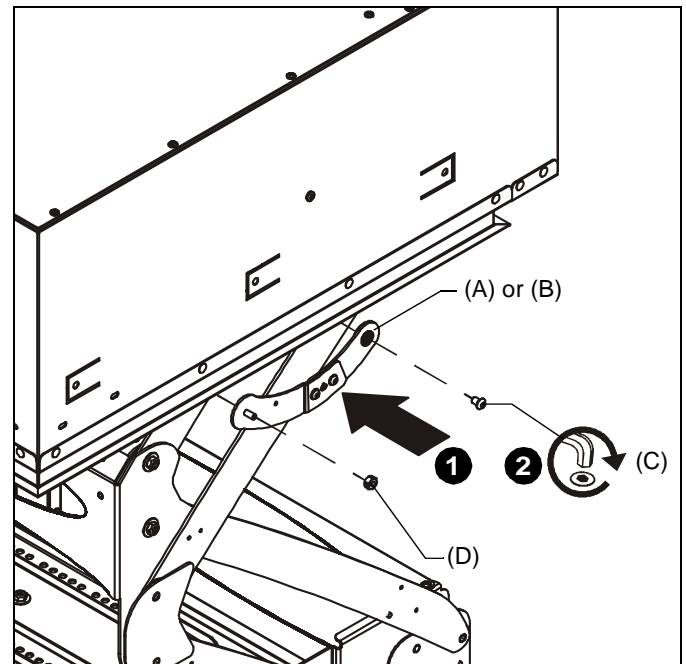

Figure 3
1. Insert appropriate lifting link--right (A) or left (B).
2. Fasten lifting link in place using one 1/4-20 x 3/8" button head cap screw (C) in bottom of lifting link, and one 1/4-20 locknut (D) in top of lifting link. (See Figure 3)